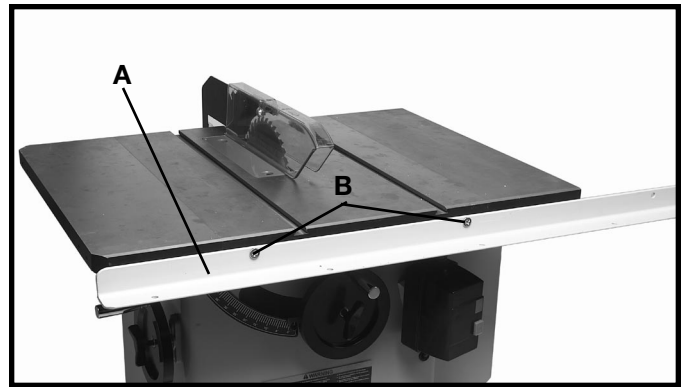

Fig. 3
1. Align the two holes in the front guide rail (A) Fig. 3, with the two holes in the front of the table.
2. Insert a M8-1.25x30mm flat head screw (B) Fig. 3, through the hole in the front guide rail and the table.